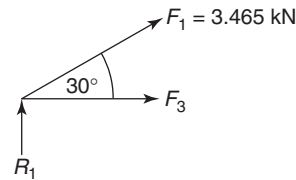

Figure 4.32
Consider next joint (2), as this joint now has two or less unknown forces; see Figure 4.32.